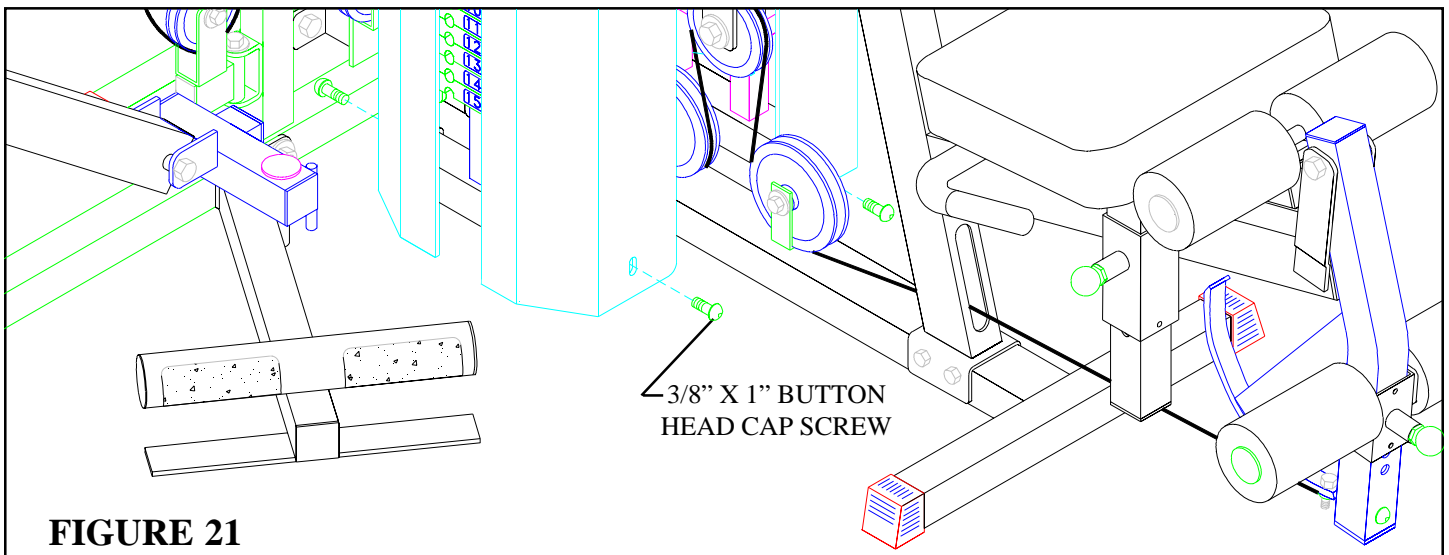

FIGURE 21
- **SECURELY** attach the four previously removed 3/8" X 1" BUTTON HEAD CAP SCREWS from the bottom of the front SHROUD & rear SHROUD. Remove the SHROUDS from the 425103 HOME GYM. See FIGURE 21.